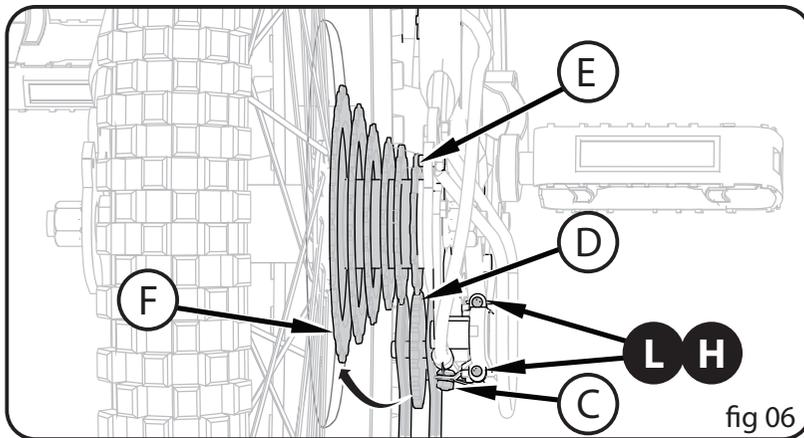

fig 06
- Shift the chain onto the largest rear Sprocket (F).
- Turn the "low" adjusting Screw (L) so the Jockey Roller is exactly below the largest rear sprocket. (fig 06)
- Turn the “high” adjusting Screw **H** so the Jockey Roller **D** is in line with the outside edge of the smallest rear Sprocket **E** (**fig 06**)